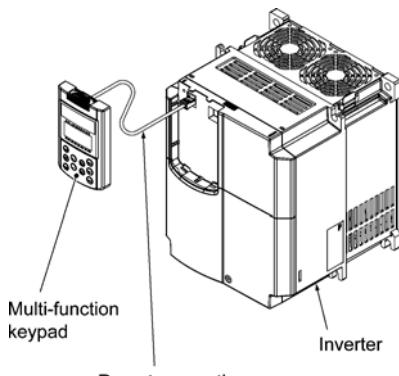

Figure 2.3 Using Multi-function Keypad
- Use it remotely in your hand (see Figure 2.3).